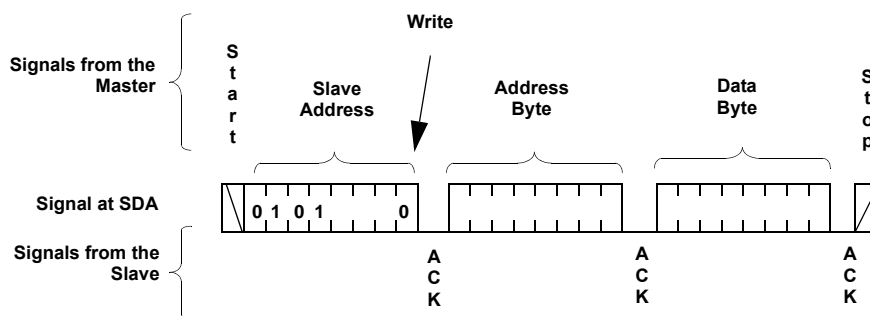

FIGURE 7. BYTE WRITE SEQUENCE
2. Access the desired DR or WCR using a new write or read command (see Figure 7 for write and Figure 9 for read.)
For any Byte Write operation, the X9252 requires the Slave Address byte, an Address Byte, and a Data Byte (see Figure 7). After each of them, the X9252 responds with an ACK. The master then terminates the transfer by generating a STOP condition. At this time, if the write operation is to a volatile register (WCR, or SR), the X9252 is ready for the next read or write operation. If the write operation is to a nonvolatile register (DR), and the \overline{WP} pin is high, the X9252 begins the internal write cycle to the nonvolatile memory. During the internal nonvolatile write cycle, the X9252 does